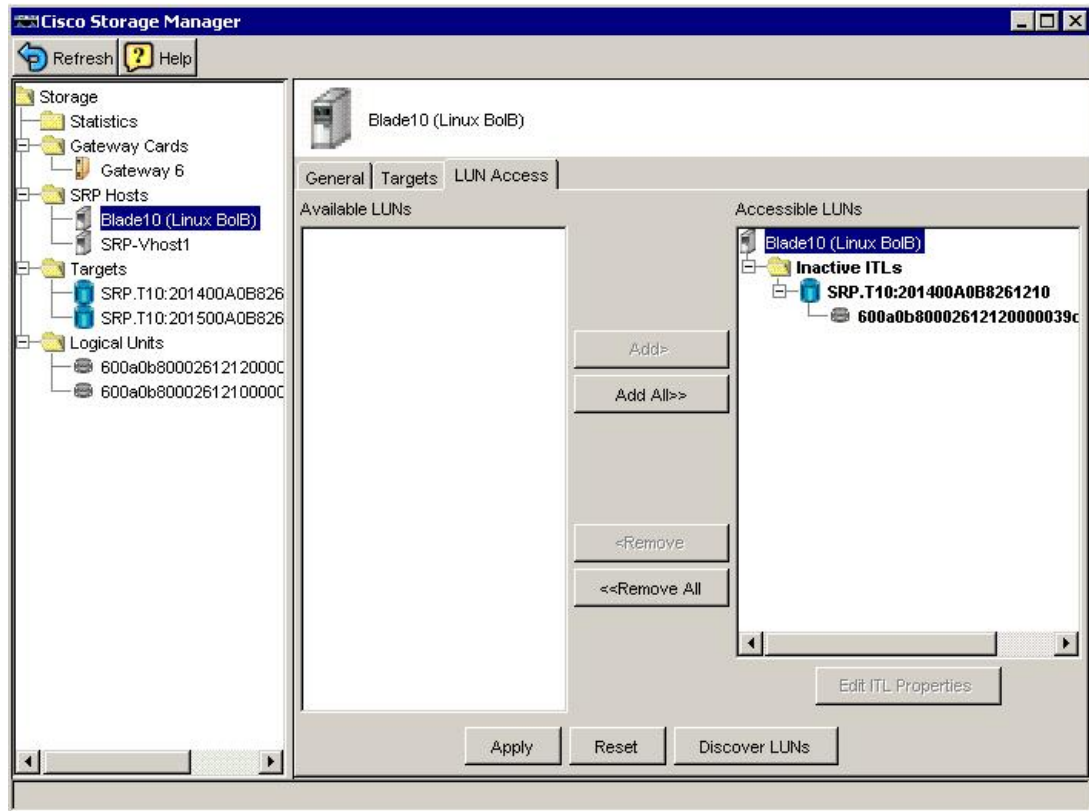

Figure 6-18 Accessible LUNs menu
2. Click **Discover LUNs** (Figure 6-18).